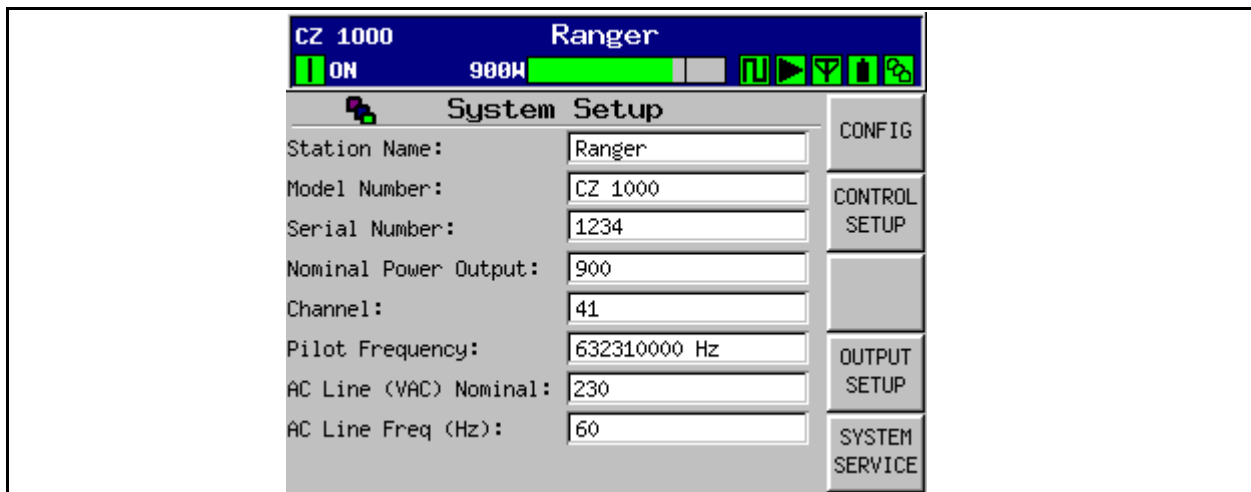
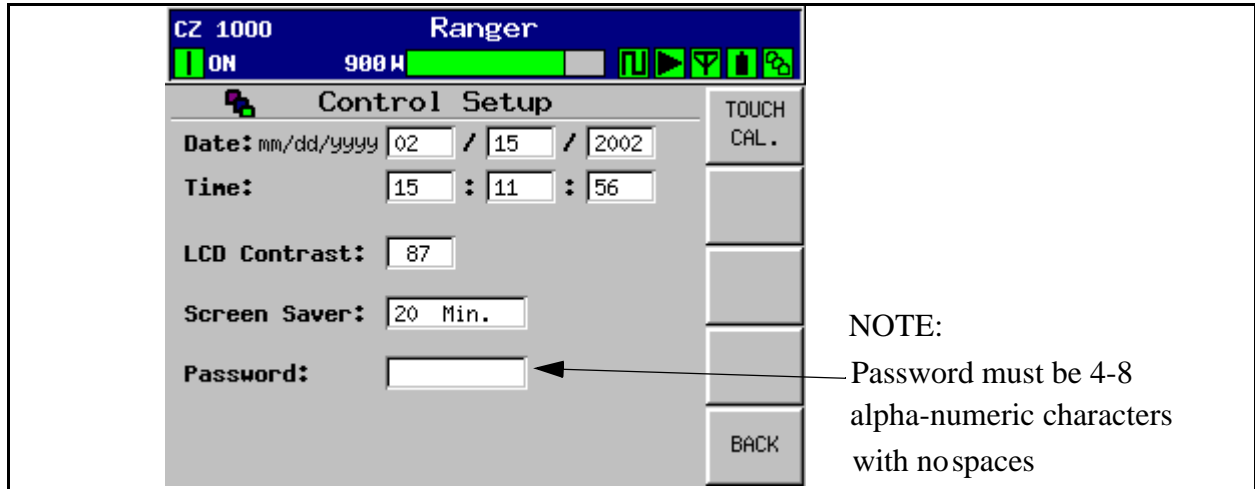

Figure 2-5 System Setup Screen
Figure 2-6 Control Setup Screen
- Customize the transmitter System Setup.** Press the SYSTEM button then enter the default password - 1895. Then press SYSTEM SERVICE and SYSTEM SETUP to access the screen shown in Figure 2-5. The System Setup screen displays the settings for station name, model number, nominal output power, etc. Touch the screen at each field to enter the data pertinent to the site. For more information on this screen see "3.9.3.1 System Setup" on page 3-27.
- Press the **CONTROL SETUP** button in Figure 2-5 to set the **Date, Time, LCD screen contrast and Password on the Control Setup screen, shown in Figure 2-6.** Touch the screen at each field to enter the correct data for Date, time, contrast and password. There is also a time entry for the LCD screen saver feature.